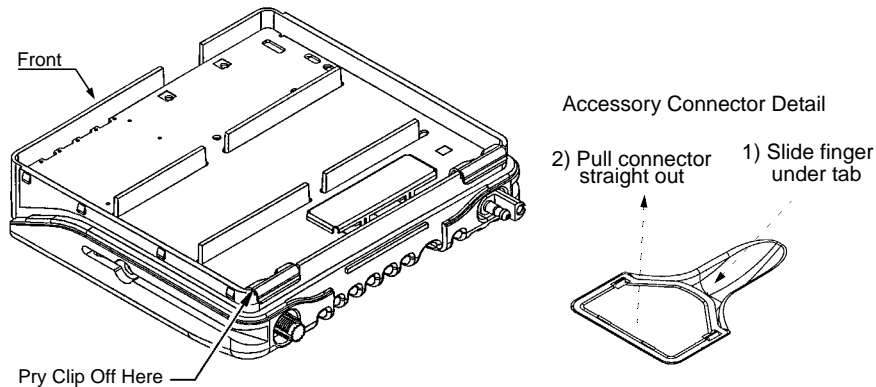

Figure 5-6. Removing the Transceiver Board - Low Power Models (except 800 MHz and 900 MHz)
2. Remove all screws using a T8 or T-10 Torx Driver where appropriate. Remove the power and antenna connector retaining clips by inserting a small flat blade screwdriver between the clip and the top of the chassis wall and gently prying upwards (see Figure 5-6).
2. Remove the power and antenna connector retaining clips by inserting a small flat-blade screwdriver or like instrument between the clip and the top of the cavity wall per area shown in Figure 5-6. Gently prying upwards.